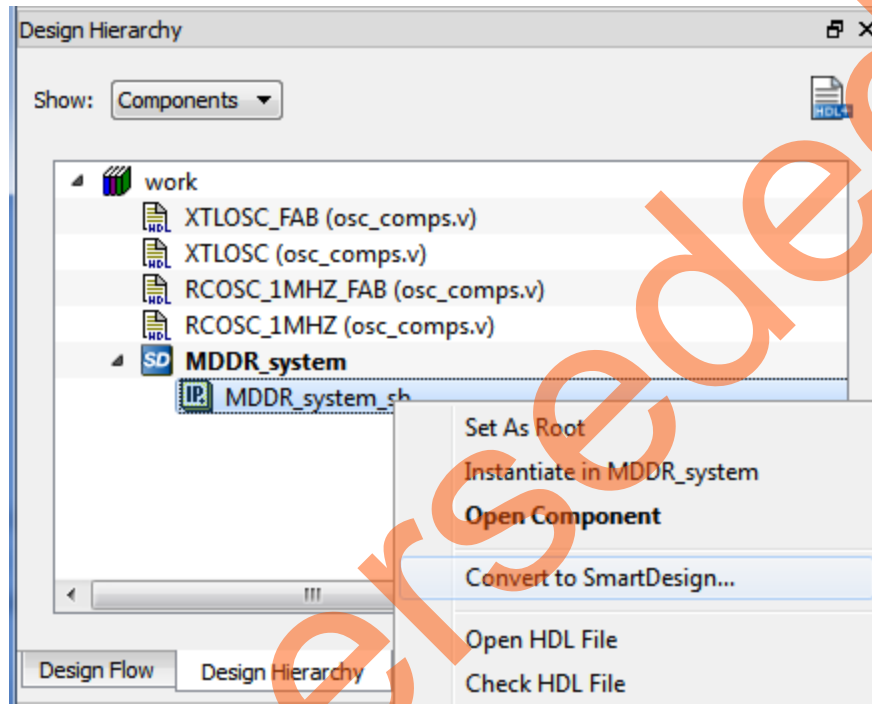

Figure 12. Open as SmartDesign Option
2. Right-click the **MDDR_system** and select **Convert to SmartDesign**, as shown in Figure 12.